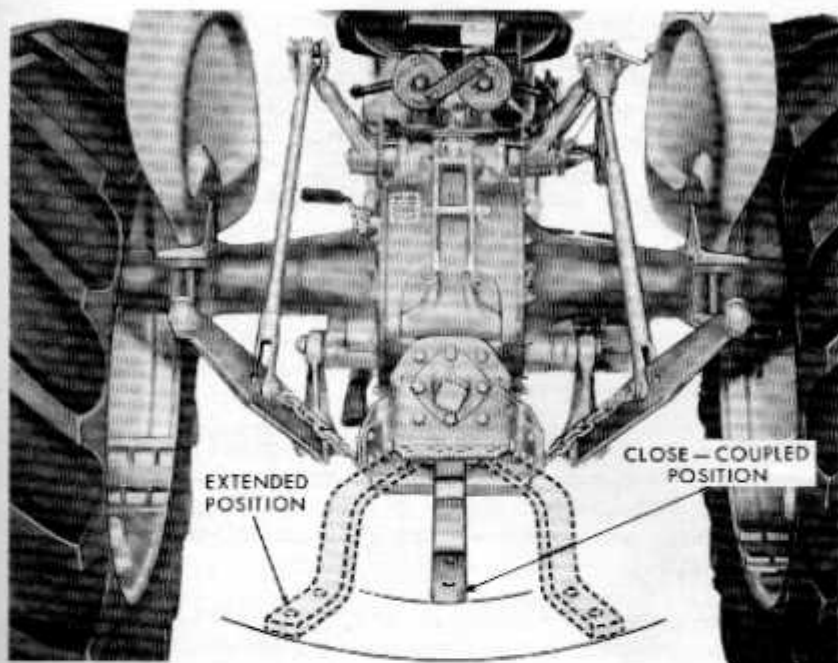

Figure 16
**\*Swinging Drawbar:** The swinging drawbar provided as standard equipment on your Ford Tractor, permits quick, easy attachment of pull type implements. The tractor can be operated with the swinging drawbar in either the "close-coupled" or "extended" positions (see Figure 16). The drawbar may also be set and used in different positions either to the left or right of center (seven in all). When operating with P.T.O. driven equipment, the drawbar should always be in the "extended" position with the offset down.